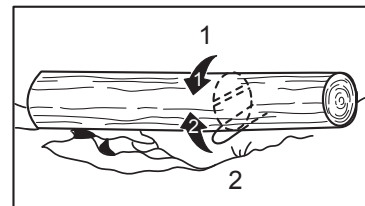

FIG. 6
3. Trunk supported on both ends. First cut from above for 1/3 of the trunk and then from the bottom up until the previous cut has been reached. (Fig.6).